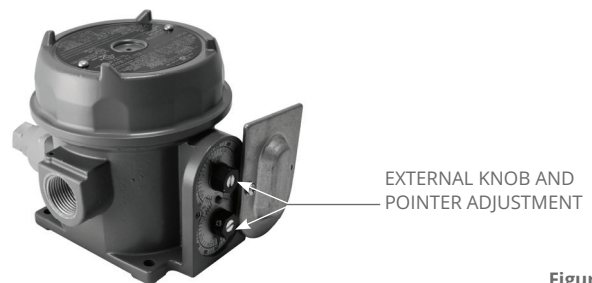

Figure 4
- 2 Adjust set point by turning external knob and pointer to desired setting on scale (see figure 4).
Individual switches may be set together or separately by up to 100% of range. The front (low) switch should never be set higher than the rear (high) microswitch. Turning external knobs will increase or decrease each switch setting independently (see figure 4).